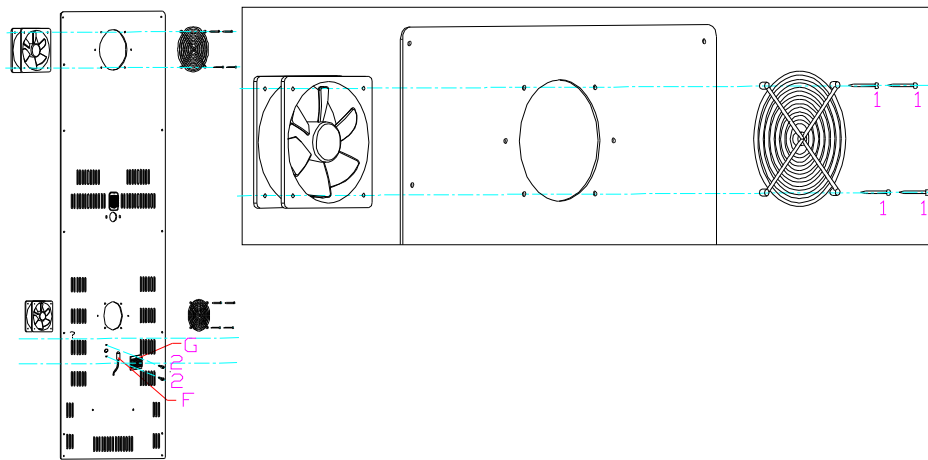
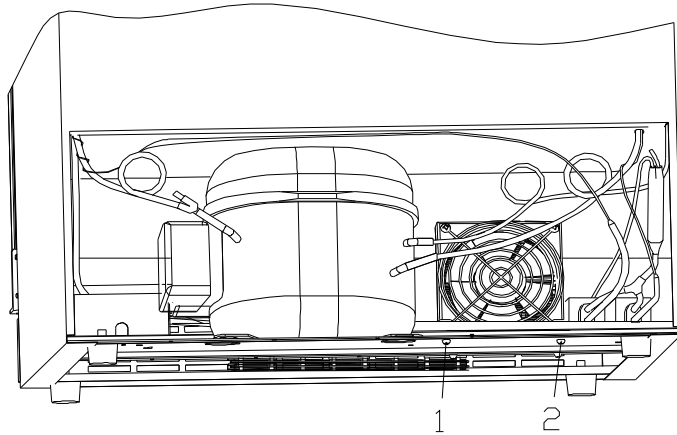
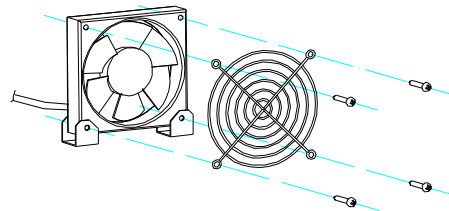

Fig. 5
Fig. 6
Fig.6.1
3>. Remove 4 fixing screws(1) of the fan, replace it with new one. (Fig.5)
b. lean back the unit with angle 45° ,remove the fixing screws(1,2) of the fan from bottom of the compressor branket with crossing head screwdriver. and replace it. (→5) (Fig.6 & Fig.6.1)
2 >.If the fan is damaged seriously or broken, replace it with the new fan(Fig.5)
The unstable temperature is caused by the evaporator fans cease, and it can be check by the below method: When the compressor is running, the light “Run” is on, the fan should be running, if the fan stop, check the whether is any fault in the fan or fan connection. If the fan is broken, replace it with the fan of the same model. (→5) (Fig.5 & Fig. 6 & Fig. 6.1 ).
1>. The LED display shows E1, and it is the upper zone’s sensor open circuit fault, check the connection wire and the main board whether plough, if not , replace the sensor with the same module. See(→5) (Fig.5.)
2>. If the LED displays “E2” indicates upper zone’s sensor short circuit fault, check the connection wire and the main board whether it is in good condition, if yes, the sensor should be replaced see (→5) (Fig.5)
3>. The LED display shows E3, and it is the middle zone’s sensor open circuit fault, check the connection wire and the main board whether plough, if not, replace the sensor with the same module. See(→5) (Fig.5.)
4>. If the LED displays “E4” indicates middle zone’s sensor short circuit fault, check the connection wire and the main board whether it is in good condition, if yes, the sensor should be replaced see (→5) (Fig.5)
5>. The LED display shows E7, and it is the lower zone’s sensor open circuit fault, check the connection wire and the main board whether plough, if not, replace the sensor with the same module. See(→5) (Fig.5.)
6>. If the LED displays “E8” indicates the lower zone’s sensor short circuit fault, check the connection wire and the main board whether it is in good condition, if yes, the sensor should be replaced see (→5) (Fig.5)
2>. Remove the air-duct board (→5) (Fig. 6& Fig. 6.1)
3>. Pull out 2 fixing plastic nails(2),the cover of the sensor will loose down, take away the sensor(F),replace it(→5) (Fig.5).